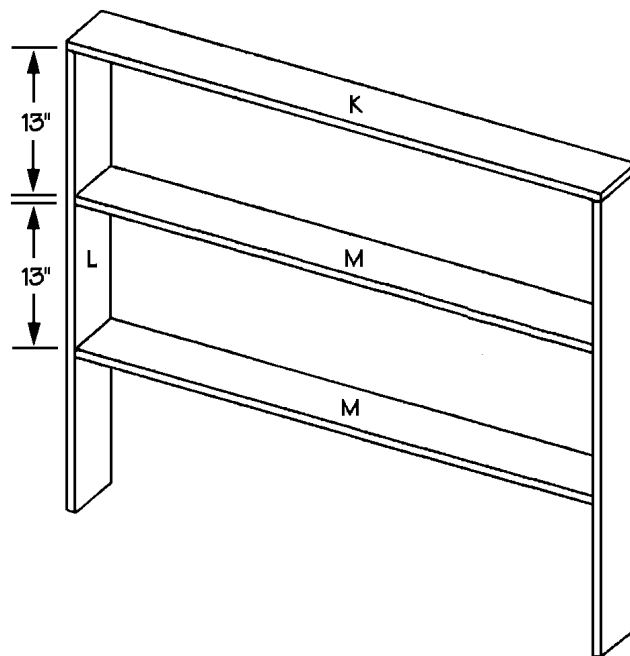
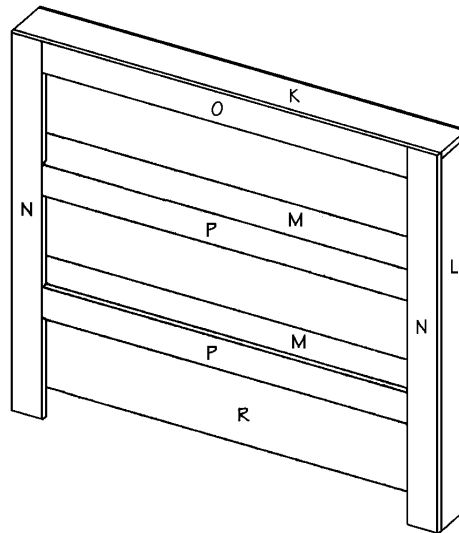

Figure 6
Figure 7
- Cut two hutch shelves (M) from 1 x 6 pine, each measuring 46-1/2 inches long.
- Place one hutch shelf (M) between the two hutch sides (L), 13 inches from the hutch top (K) as shown in *Figure 6*. Screw through the hutch sides (L) into the ends of the hutch shelf (M). Use three 1-1/2" screws on each of the joints.
- Place the remaining hutch shelf (M) between the two hutch sides (L), 13 inches from the
first hutch shelf (M), as shown in *Figure 6*. Again, screw through the hutch sides (L) into the ends of the hutch shelf (M). Use three 1-1/2" screws on each of the joints.
7. Cut two hutch side trims (N) from 1 x 4 pine, each measuring 42-1/4" long.
8. Apply glue to the meeting surfaces, and attach one hutch side trim (N) to the front edge of the hutch top (K) and the hutch side (L), as shown in *Figure 7*. Screw through the hutch side trim (N) into both the hutch top and side (K and L), using 1-1/2-inch screws spaced about every 5 inches.
9. Repeat Step 33 to attach the remaining hutch side trim (N) to the opposite hutch side (L) and the hutch top (K).
10. Cut one hutch top trim (O) from 1 x 4 pine, measuring 41 inches long.